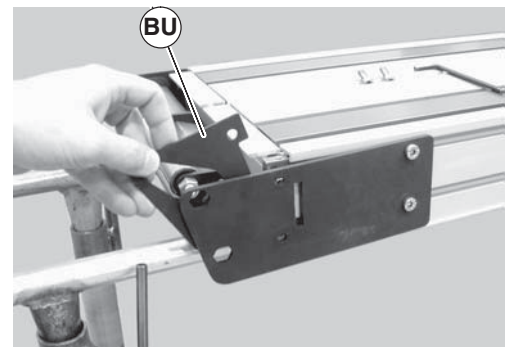

Figure 55
3. Remove the inner spacer (Figure 55, item BU).